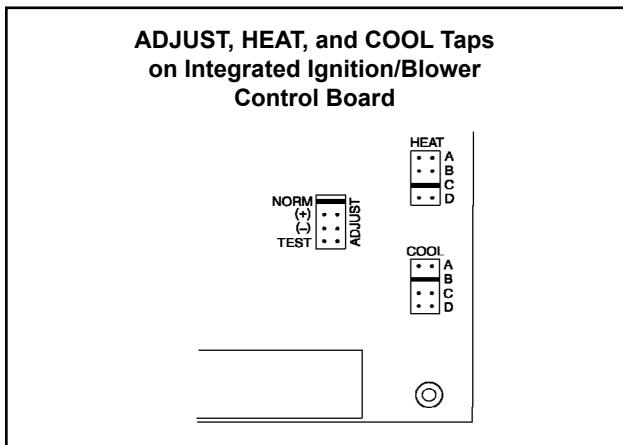

Figure 54
2. When this unit is running in the heating mode, the indoor blower will run on the heating speed designated by the positions of DIP switches 1 (A,B,C,D) of the HEAT jumper plug. See Figure 54.
3. When there is a cooling demand, the indoor blower will run on the cooling speed designated by the positions of DIP switches (A, B, C, D) of the COOL jumper plug. See Figure 54.
Airflow amounts may be increased or decreased by 10% by moving the ADJUST jumper plug (see Figure 54) from the NORM position to the (+) or (-) position. Changes to the ADJUST tap will affect both cooling and heating airflows. The TEST position on the ADJUST tap is not used.